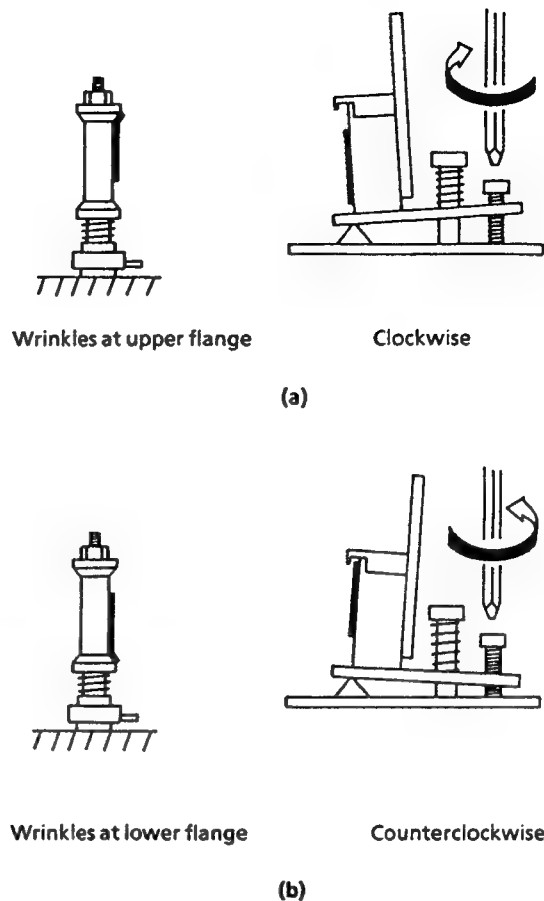

Figure 1-55.
- 1) Wrinkles at the upper flange : Turn the above adjusting screw clockwise, as shown in Figure 1-55 (a)
- 2) Wrinkles at the lower flange : Turn the above adjusting screw counterclockwise, as shown in Figure 1-55 (b)